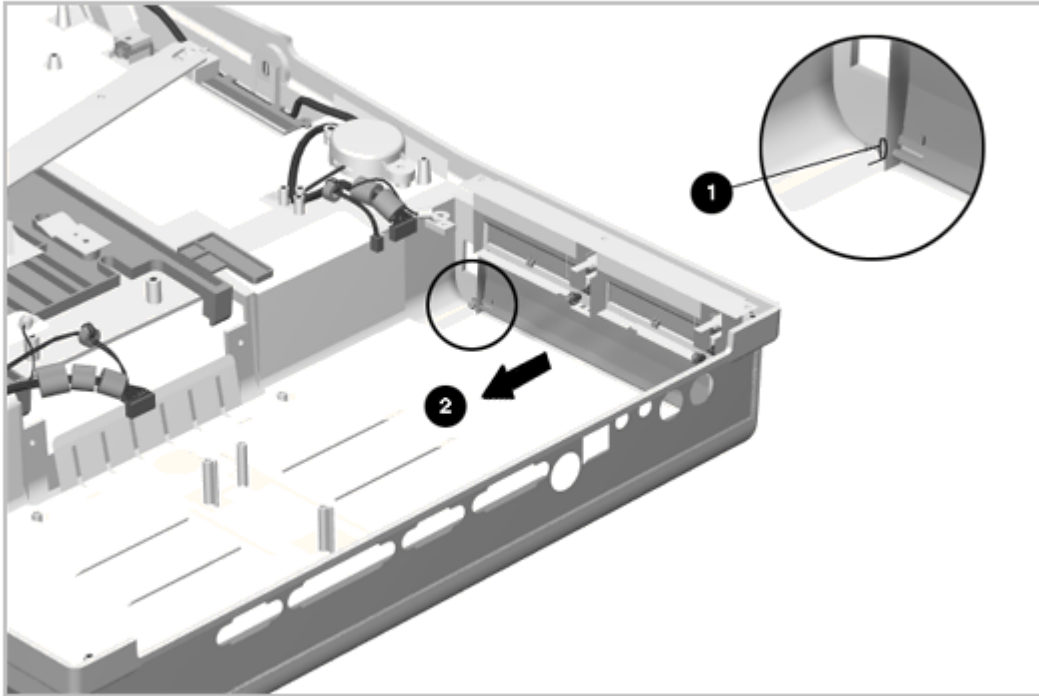

Figure 6-22. Removing the MultiBay Door
6. Remove the MultiBay door by flexing the door [2] away from the expansion base as shown in Figure 6-22. Note the orientation of the spring [1]; this is important since it maintains the door in a closed position.